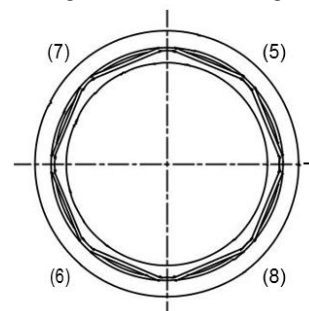

FIGURE 2
- b. "Split the difference" between these (4) points and push the O-ring into the groove as shown in Figure 2.